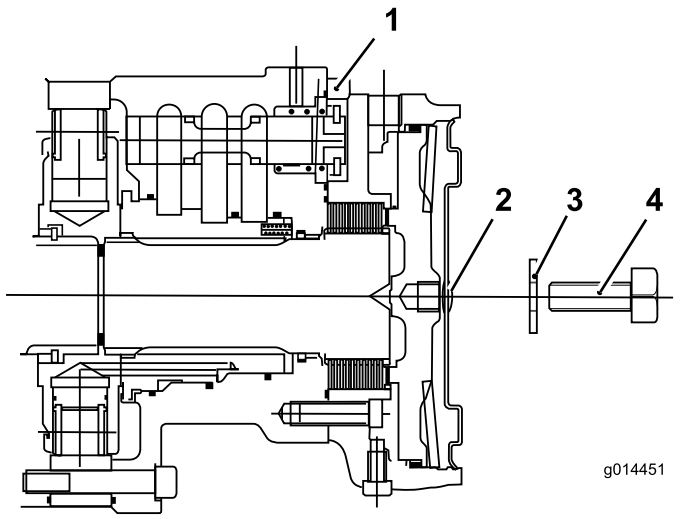

Figure 37
1. Remove the bolt 12 x 40 mm and washer 12 mm from the hole at the center of the motor end plate (Figure 37).